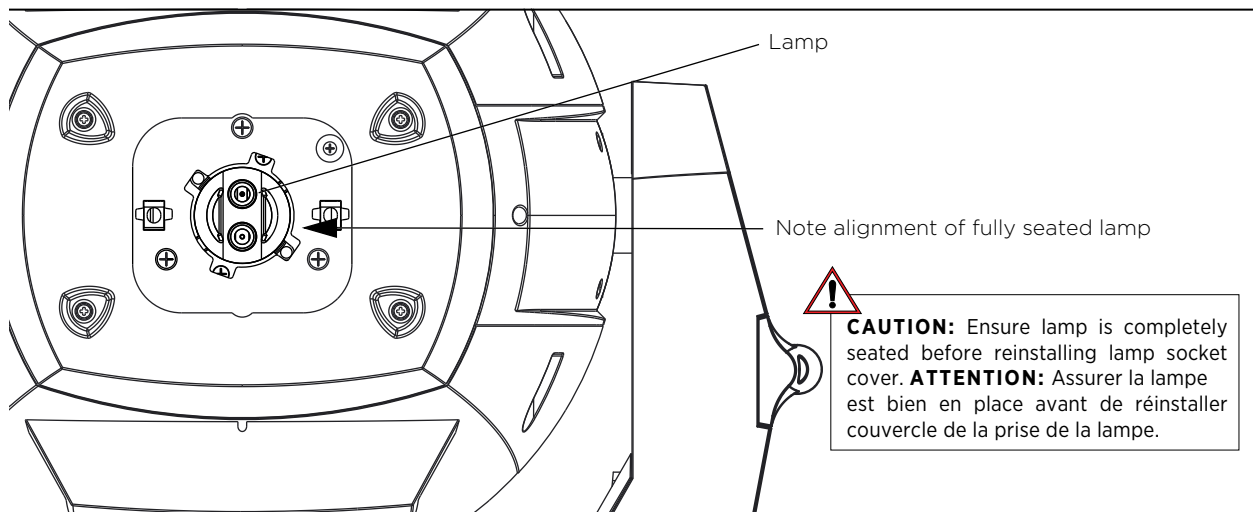

FIGURE 6: INSTALLED LAMP
Step 8. Turn lamp clockwise to seat lamp into socket. Lamp base should be aligned as illustrated in Figure 6.